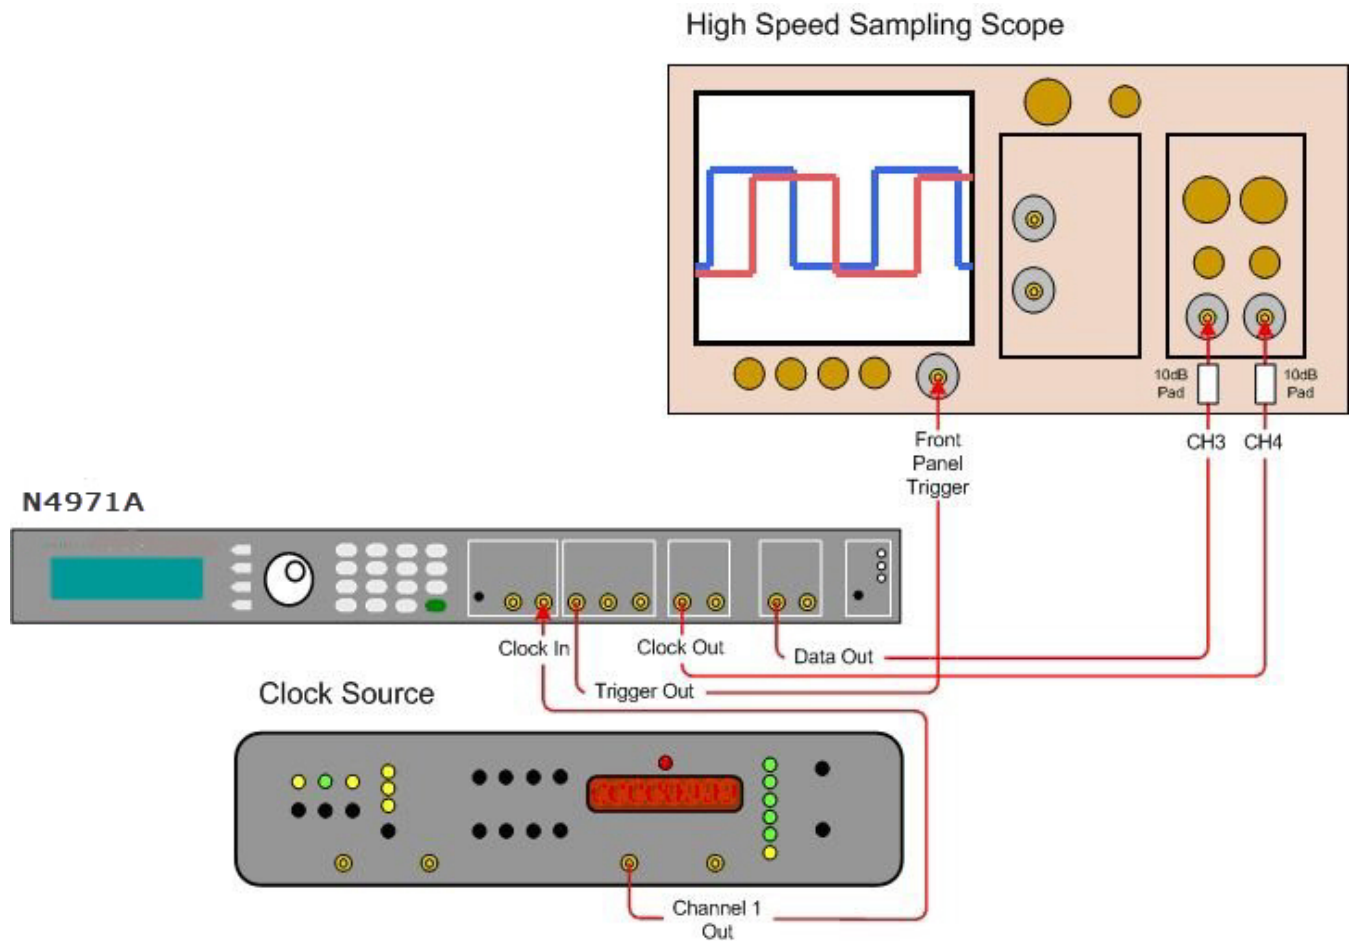

Figure 18. De-emphasis setup
1. Connect the N4971A to a clock source and high speed sampling scope as shown in Figure 18 Tighten cables to 8 lbf-in (90 N-cm) and use 50 Ω terminations on all unused ports.